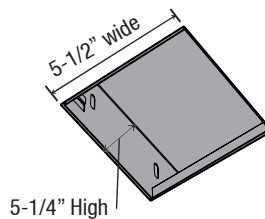

Figure 5: Ceiling Cut-Out
1. Cutout hole in ceiling material should be 5-1/4" high by 5- 1/2" wide (Figure 5). Align backbox so lamp head opening is flush, or slightly behind inner ceiling or wall surface.